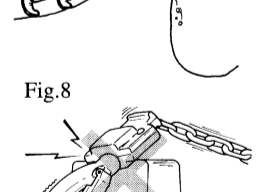

Fig.8
9) Do not apply a bending force to the hook of the chain hoist. Such handling ways as shown in Fig.8 are very dangerous and should be absolutely avoided.